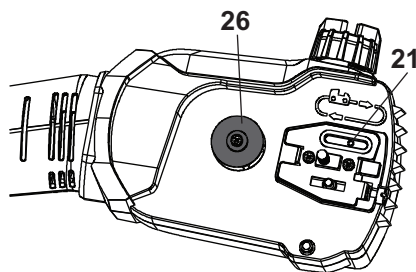

Fig. 36
1. Disassemble the guide bar (16) and saw chain (17) in reversed order from assembly.
2. Check the oiling port (21) for clogging and clean if necessary to ensure proper lubrication of the guide bar and saw chain during operation. Use a soft wire small enough to insert into the oil discharge hole (Fig. 36).